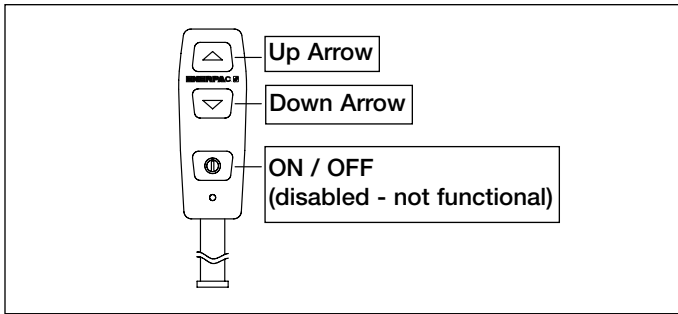

Figure 7
5.2 Pendant Operation (see Figure 7)
Oil flow and motor operation are controlled by the pendant buttons. The pump will run and the cylinder will clamp when the pendant Up-Arrow button is pressed. The pump will run and the cylinder will unclamp when the pendant Down-Arrow button is pressed. Releasing either button at any time will stop the pump and will relieve pressure in the hoses (see Fig. 7).
4. Press and hold the Up-Arrow button on the pendant. (see figure 7). Allow pressure to build.
- b. Press and hold the Up-Arrow button on the pendant. (see figure 7). Allow pressure to build.
8. Release the Up-Arrow button. Check that gauge indicates zero (0) psi.